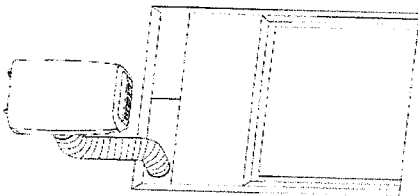

Fig. 5
- 2) As shown in Fig. 5 and Fig. 5a, install the exhaust hose, and adjust the window position well.